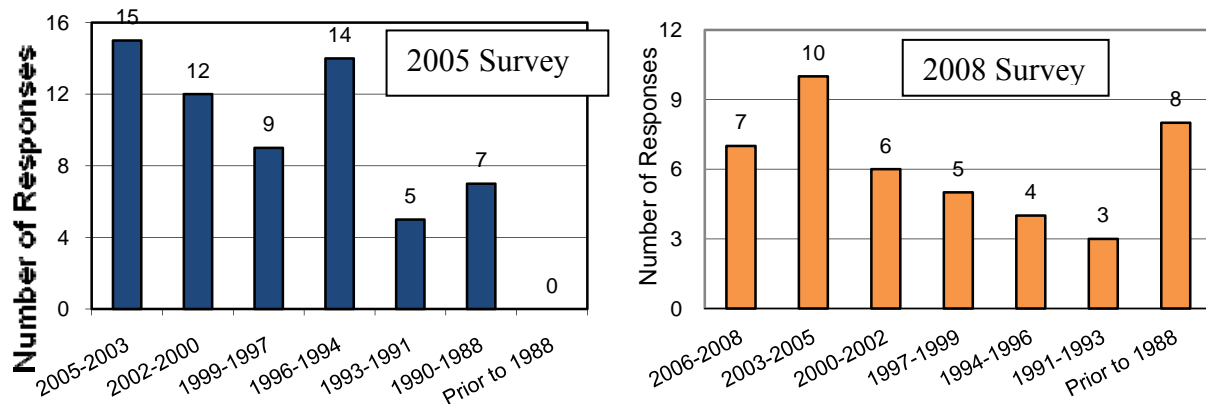

Figure 2.2 Results of 2005 and 2008 Alumni Survey question: *When did you graduate?*
Part 1: General Information about respondents: A clear majority of alumni who responded in the 2008 survey graduated in the last ten years as shown in Figure 2.2. This makes their responses more relevant to assessing the program educational objectives.
A relative low rating of the Objective 3, *Instilling a sense of responsibility as a professional member of society*, can be partly explained by the year of graduation of those alumni who participated in the survey. As shown in Figure 2.2, a majority of alumni who participated in the 2008 survey graduated in 2003 to 2005, which indicates that they finished the program under the catalog year of 1998-2000. Since then, there have been continuous efforts, including the program change that requires passing the FE exam, to motivate students to consider the FE exam seriously, and to encourage them to take Professional Engineer (PE) exam after graduation. We expect that next set of alumni survey will show improvement in achieving objective 3.